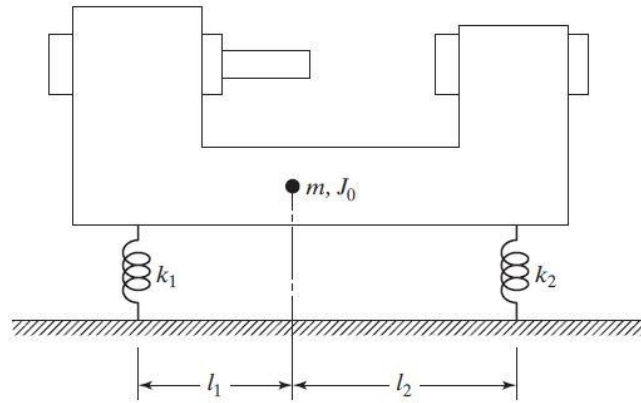

FIGURE 5.27
- 5.8 A machine tool, having a mass of $m = 1000$ kg and a mass moment of inertia of $J_0 = 300$ kg-m², is supported on elastic supports, as shown in Fig. 5.27. If the stiffnesses of the supports are given by $k_1 = 3000$ N/mm and $k_2 = 2000$ N/mm, and the supports are located at $l_1 = 0.5$ m and $l_2 = 0.8$ m, find the natural frequencies and mode shapes of the machine tool.